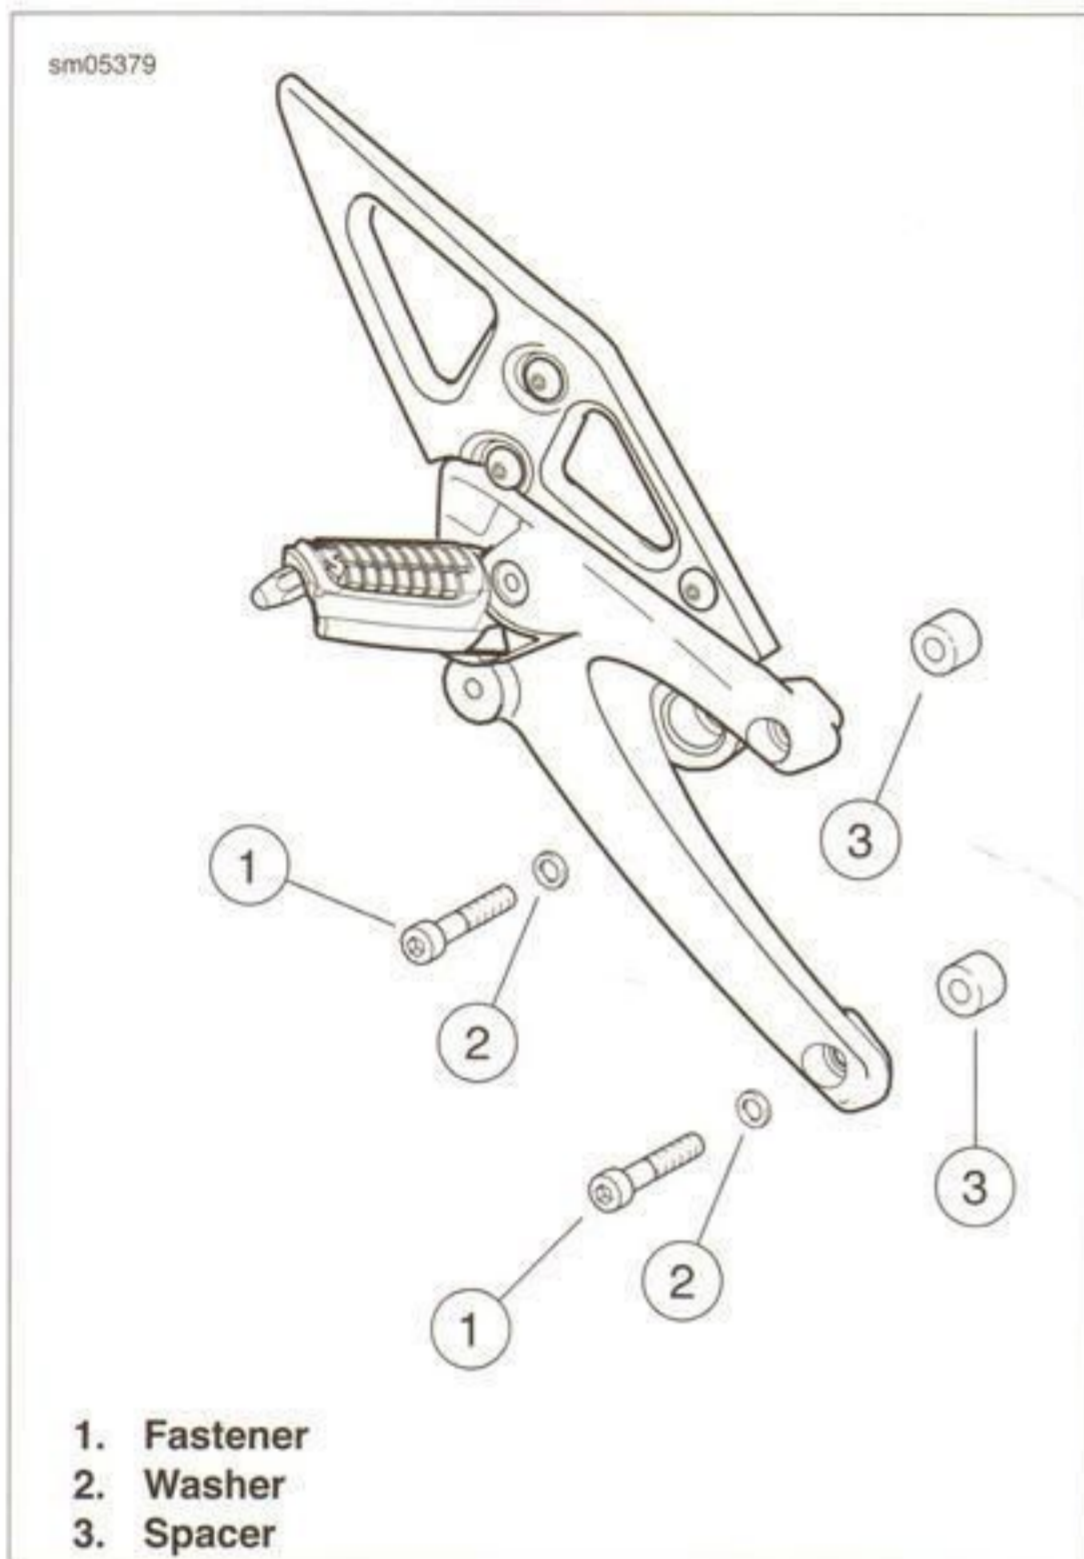

Figure 2-154. Right Side Rider Footpeg Mount
2. See Figure 2-154. Remove the footpeg mount fasteners, washers and spacers.